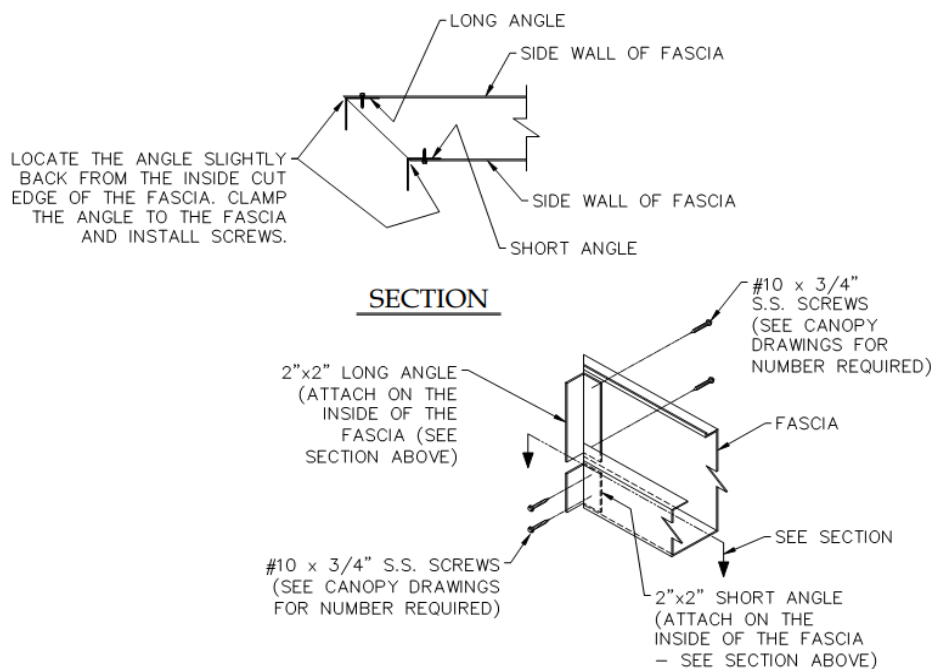

FIGURE 1
- Attach the outside and inside corner angles to the fascia piece that will attach to the wall and the fascia that will make up the front piece (Figure 1).